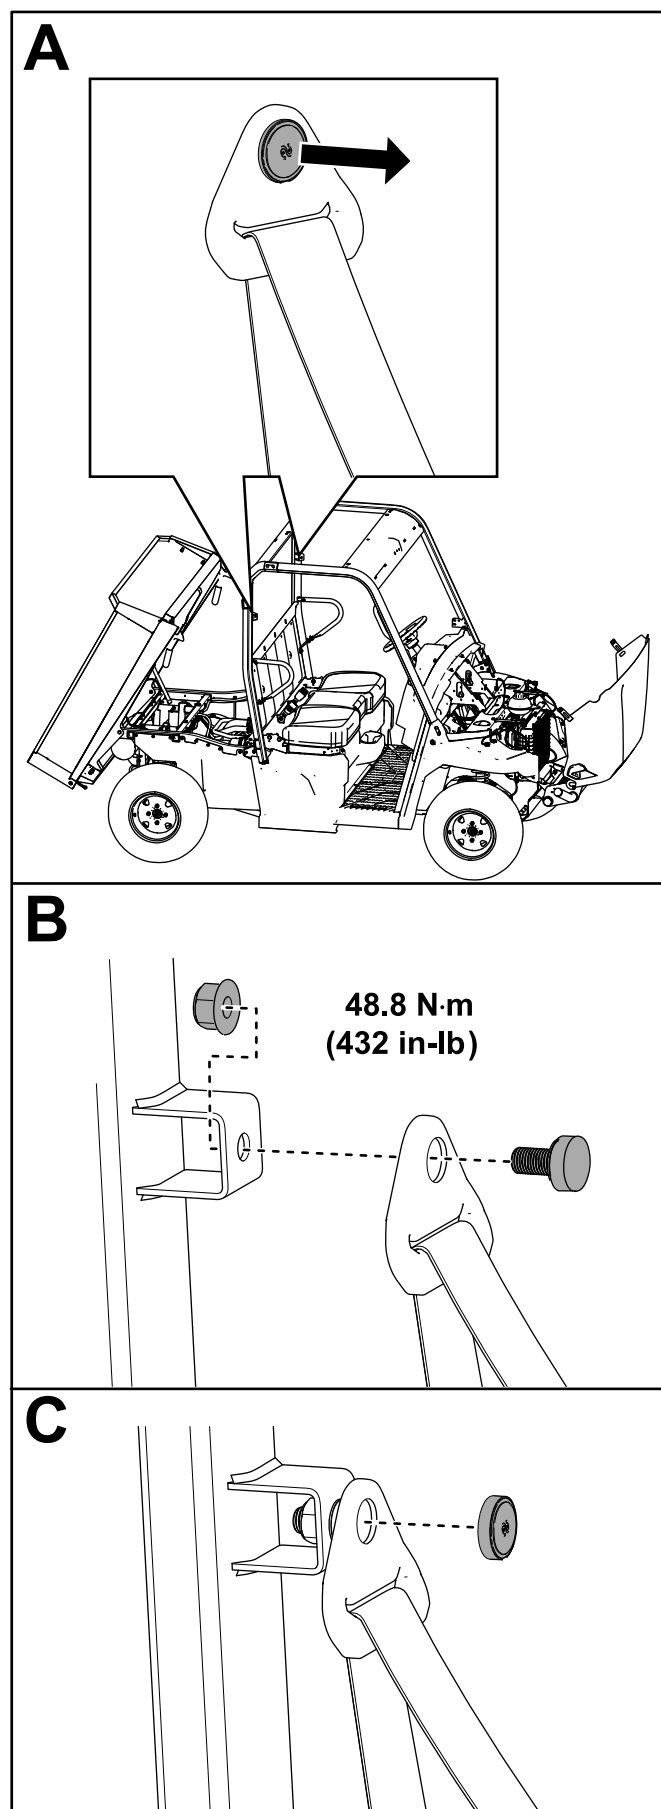

Figure 22
- A. Remove the cap from the top portion of the seat belt (Figure 22).
- B. Insert seat belt into the roll bar seat belt bracket and secure the seat belt using a locknut (7/16 inch) as shown in Figure 22.
Torque the locknut (7/16 inch) to 48.8 N·m (432 in-lb) as shown in Figure 22.
- C. Install the cap (Figure 22).